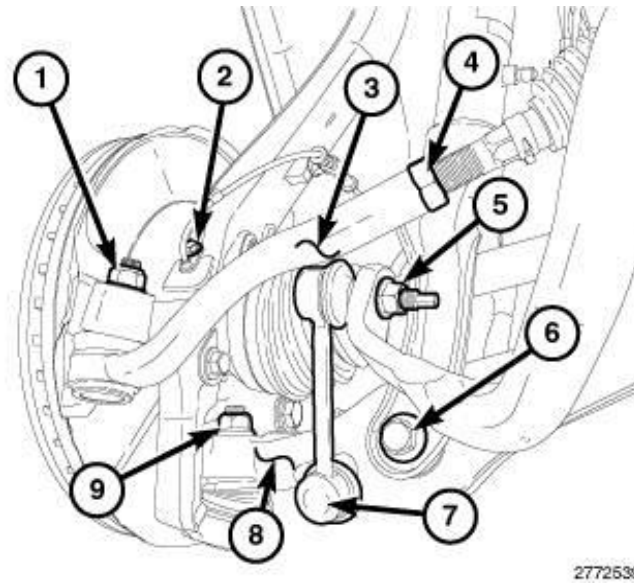

Fig. 6
13. Remove the stabilizer link (7) to lower control arm nut (Fig. 6).
14. Use a paint marker and place a mark on the rear control arm bushing bracket to the cradle (6) (Fig. 6).
15. Remove shock and clevis bracket to lower control arm nut and bolt (6) (Fig. 6).